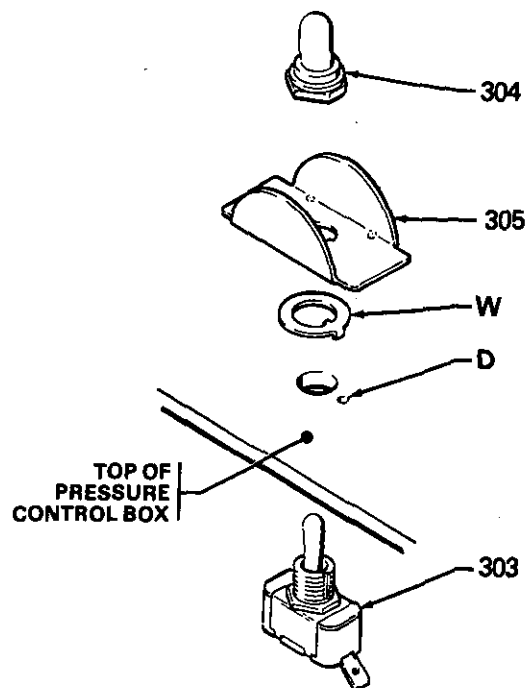

Fig 16
4. Use a 5/8" socket wrench to loosen and remove the nut and rubber boot (304) from the top of the pressure control box. Remove the switch guard (305). See Fig 16.
6. Install the new switch so the internal tab of the anti-rotation ring (W) engages with the vertical groove in the threads of the switch, and the external tab engages with the blind hole (D) of the pressure control box. See Fig 16.
7. Install the switch guard (305), aligning the internal tab with the groove in the threads. See Fig 16.
8. Install the nut and rubber boot (304) and tighten. See Fig 16.